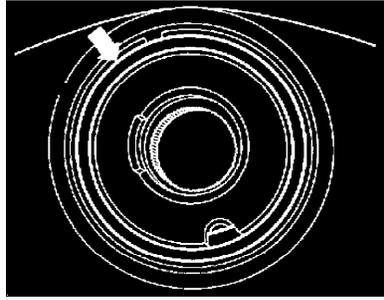

Fig. 3 Horn contact ring
- Horn contact ring, **Fig. 3**